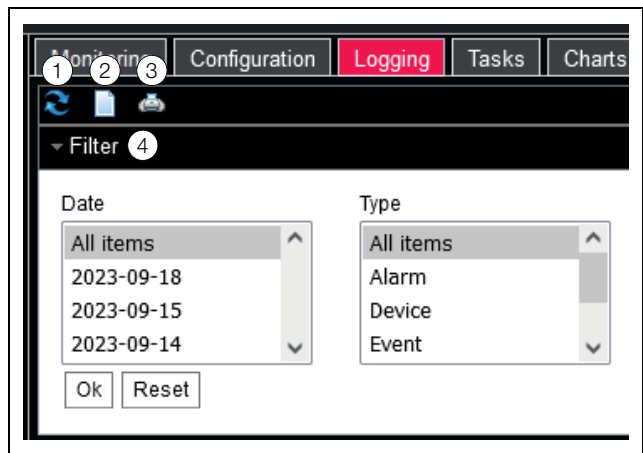

Fig. 36: Logging tab
- Expand the "Filter" area by clicking it (fig. 36, item 4).
- Click the first symbol on the left (fig. 36, item 1).
- Click the third icon from the left (fig. 36, item 3).
- Click the second symbol on the left (fig. 36, item 2).